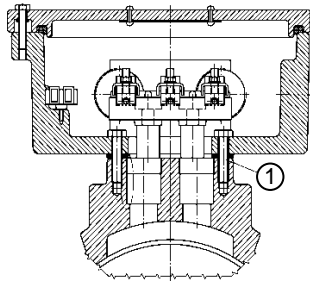
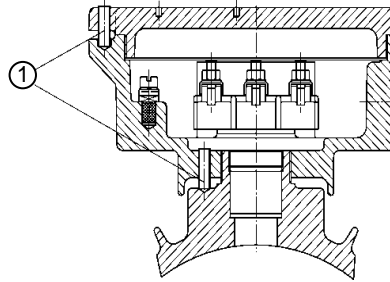

Figure 5: Terminal box EAR 132 with fastening screw 1
Figure 6: Terminal box CAR 80 with grub screw 1
Open the box by loosening the screws on the cover (Figure 5) or in version with grub screw (Figure 6) by turning the grub screw counter-clockwise and then loosening the tapped cover. Close the terminal box again after connecting the mains by following the same instructions in the opposite order.
- the four fastening screws (p Figure 5) or
- the anti-rotation pins by means of the grub screw (p Figure 6).The screws are secured using anaerobic adhesive. This can be released with a hammer blow to the head of the screw.
Terminal boxes fastened as per Fig. 6 are to be turned counter-clockwise by a maximum of one turn away from the thread end stop.